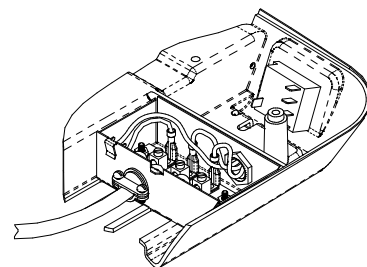

FIGURE 3
4. Insert the supply wiring through the cable clamp and into the field wiring box so that 12-14 cm of supply conductor is inside the box. Secure the cable clamp over the supply wire sheath so that no movement is possible (See Figure 3).
5. Connect the supply power conductors to the “A” and “N” lugs on the terminal board. **IMPORTANT** – If power is from one “Hot” and one “Neutral” conductor, connect the neutral to “N”. Connect the ground wire to the “E” lug on the terminal board (See Figure 3).